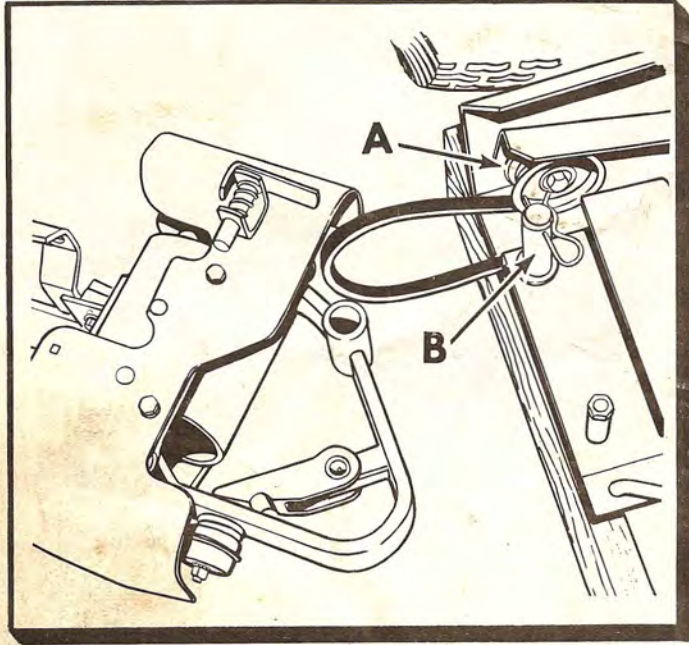

Fig. 9
## ATTACHMENT OF BASIC MOWER TO MAIN FRAME - FIG. 9
1. Loop long belt over rear jackshaft pulley and under idler pulley (A). FIG. 9
2. Remove hair cotter pin and washer from peg (B) on main frame.
NOTE: For easiest installation of basic sickle, place wood two by four under main frame as shown in Fig. 9 .